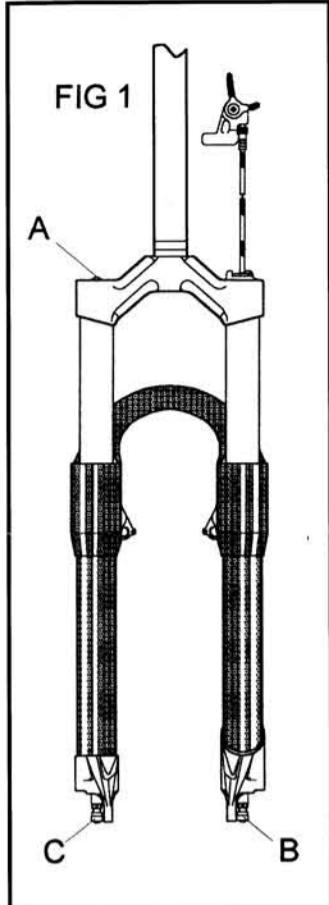

FIG 1
Erhöhung des Luftdrucks in Kammer 'A' und 'B' (Bild 1) erhöht die Federkennung (und umgekehrt). Erhöhung des Luftdruckes in Kammer 'C' bewirkt ein verbessertes Ansprechverhalten während Erhöhung in Kammer 'B' die Progression der Federkennung erhöht und somit besseren Schutz gegen Durchschlag bei voller Ausnutzung des Federweges bietet.
To adjust sag on RC38 models you will need a schrader type pump and gauge. Reduce sag by adding air to compression chambers (Fig 1.) top right of fork (A) and lower left (B). Increase pressure 10psi (0.75bar) at a time. Use a gauge to check and always remember each time a pump/gauge is attached some pressure will be lost. Reverse process to increase sag.
To adjust spring rate and tune pressures on RC38 models you will need a schrader type pump and gauge. Increasing pressure in Chambers 'A' and 'B' (Fig 1.) will increase the spring rate (and visa versa). Increasing pressure in Chamber 'C' will make the fork feel more supple, whilst increasing pressure in Chamber 'B' will improve resistance to bottoming out (achieving full travel) and produce a more progressive fork action.